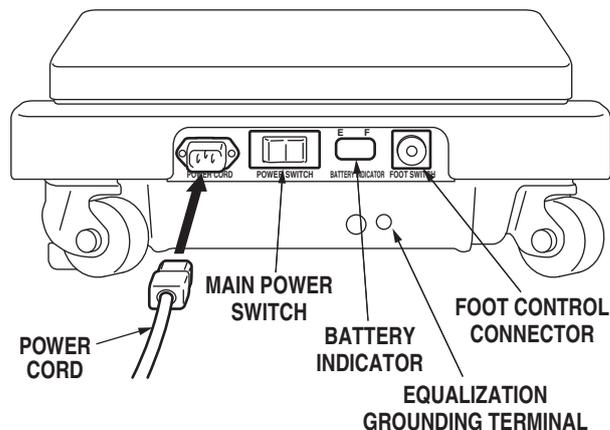

Figure 2-1. Electrical Panel
a. Make sure the Power cord is securely attached to the table. To install the power cord, align the cord connector with the base connector, insert the cord into the connector until it locks in place. See figure 2-1. Plug the cord into a properly grounded, Hospital Grade, 100 - 240 VAC outlet. Make sure the power cord is routed to the outlet to prevent it from being in the way of operating personnel. To remove the power cord, and pull the cord connector out of the base connector.